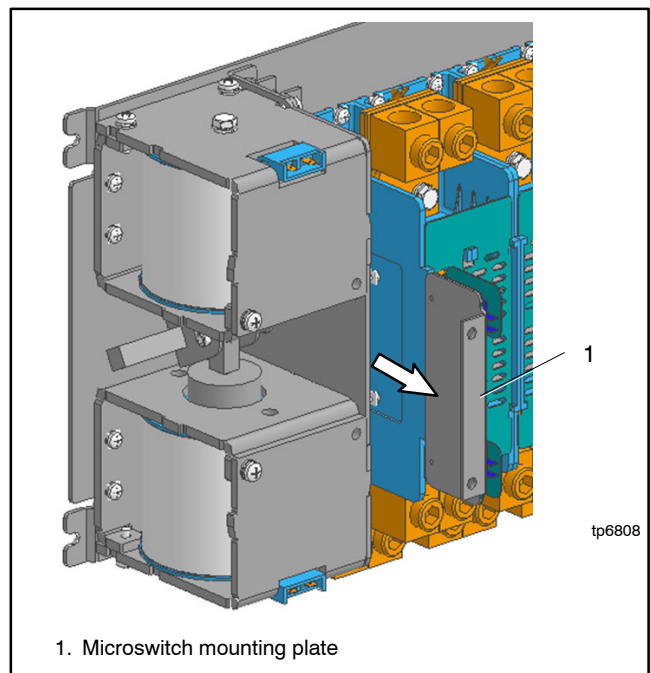

Figure 7-78 Microswitch Mounting Plate
2. Move the microswitch mounting plate toward the direction of arrow for removal. See Figure 7-78.